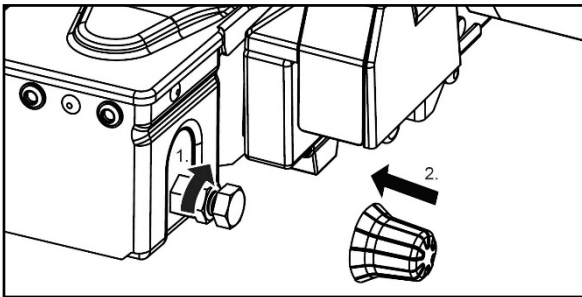

Figure 16: Adjustment of the quick lock
- Tighten the locking nut (Figure 16).
- If one of the fastenings is loose, repeat the steps shown in Figures 16 to 25.